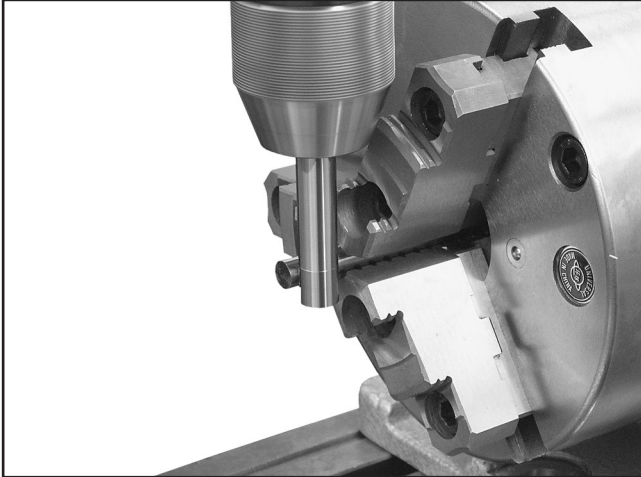

Figure 12. Using an edge finder to align the workpiece.
2. Accurately measure the diameter of the workpiece, then mount it into the chuck, as shown in **Figure 12**.